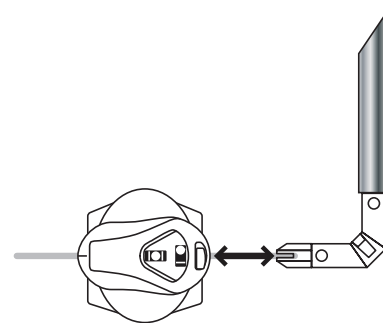

Figure 3
6. Slide laser level onto the fitting tongue (See Figure 3).